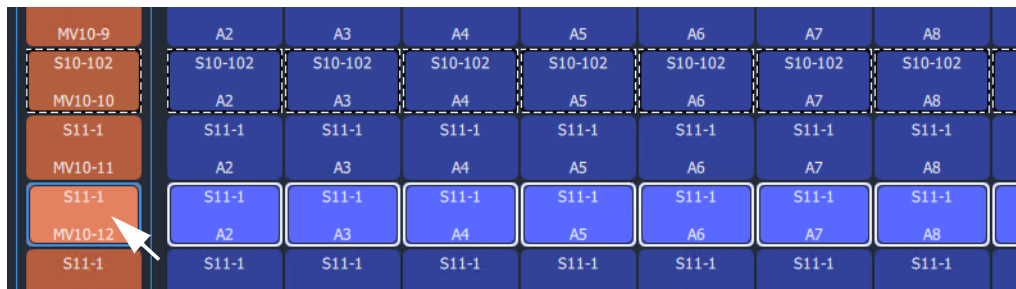

Fig. 5-84: 'Copy To' Destination Selected
- 3 Select a Destination to 'copy to'. (See Figure 5-84.)